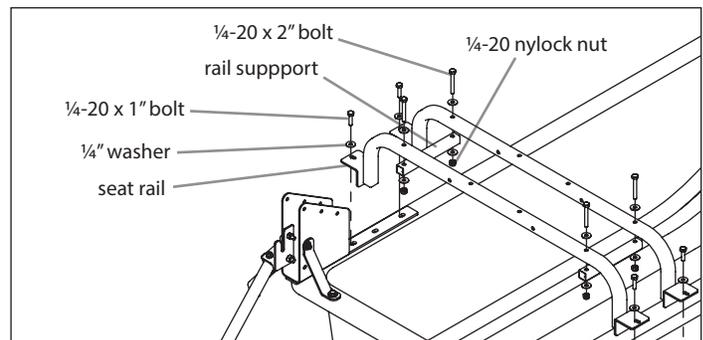

FIGURE 2
3. Attach the (2) seat rails (15033) using (4) 1/4-20 x 1" bolts, (8) 1/4" washers, and (4) 1/4-20 nylock nuts. The seat rail closest to the front of the sled will use the last slotted hole on the spacer plate (11631) that was installed in Step 1. The remaining seat rail (15033) will require the (2) support shims (11230) to keep the height between the two seat rails consistent. **SEE FIGURE 2**
4. Attach the (2) rail supports (15650) using (4) 1/4-20 x 2" bolts, (8) 1/4" washers, and (4) 1/4-20 nylock nuts. **SEE FIGURE 2**